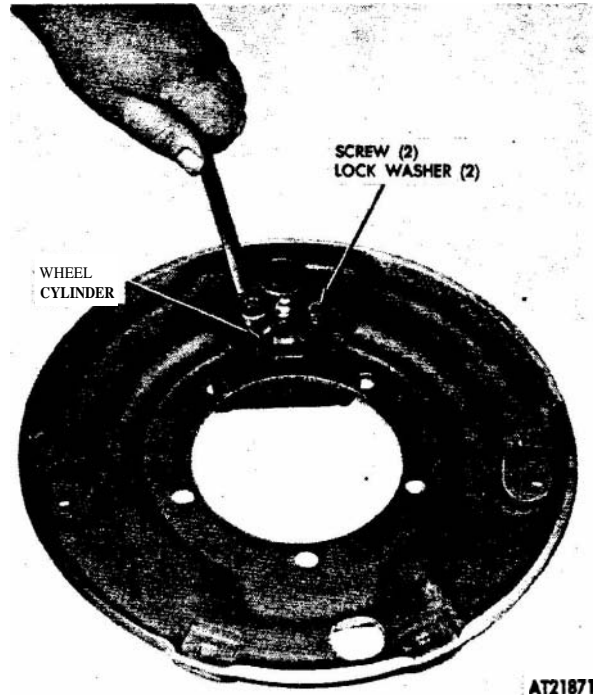

Figure 2-218. Wheel cylinder, removal and installation.
(13) Remove wheel cylinder from backing plate by removing two screws and lock washers (fig 2-218).
(16) Secure wheel cylinder to backing plate using two screws and lock washers (fig 2-218).